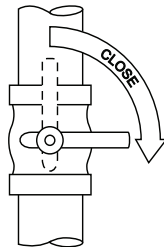

Fig. 13 - Gas Supply Shut Off Valve
Step 2 — Turn off gas supply by closing the gas supply shut-off valve (external to RTU unit). See Fig. 13.